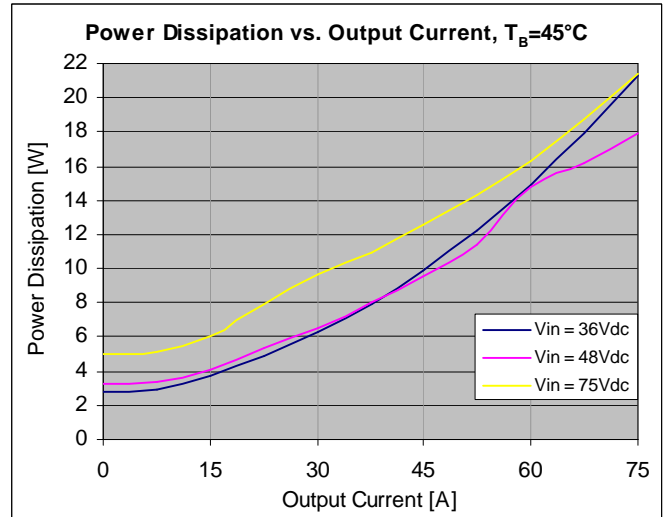

Figure 6. Power Dissipation vs. Load Current at Baseplate Temperature,  $T_B = 45^\circ\text{C}$ .
4. Appropriate Thermal Derating applies. See Figure 6.